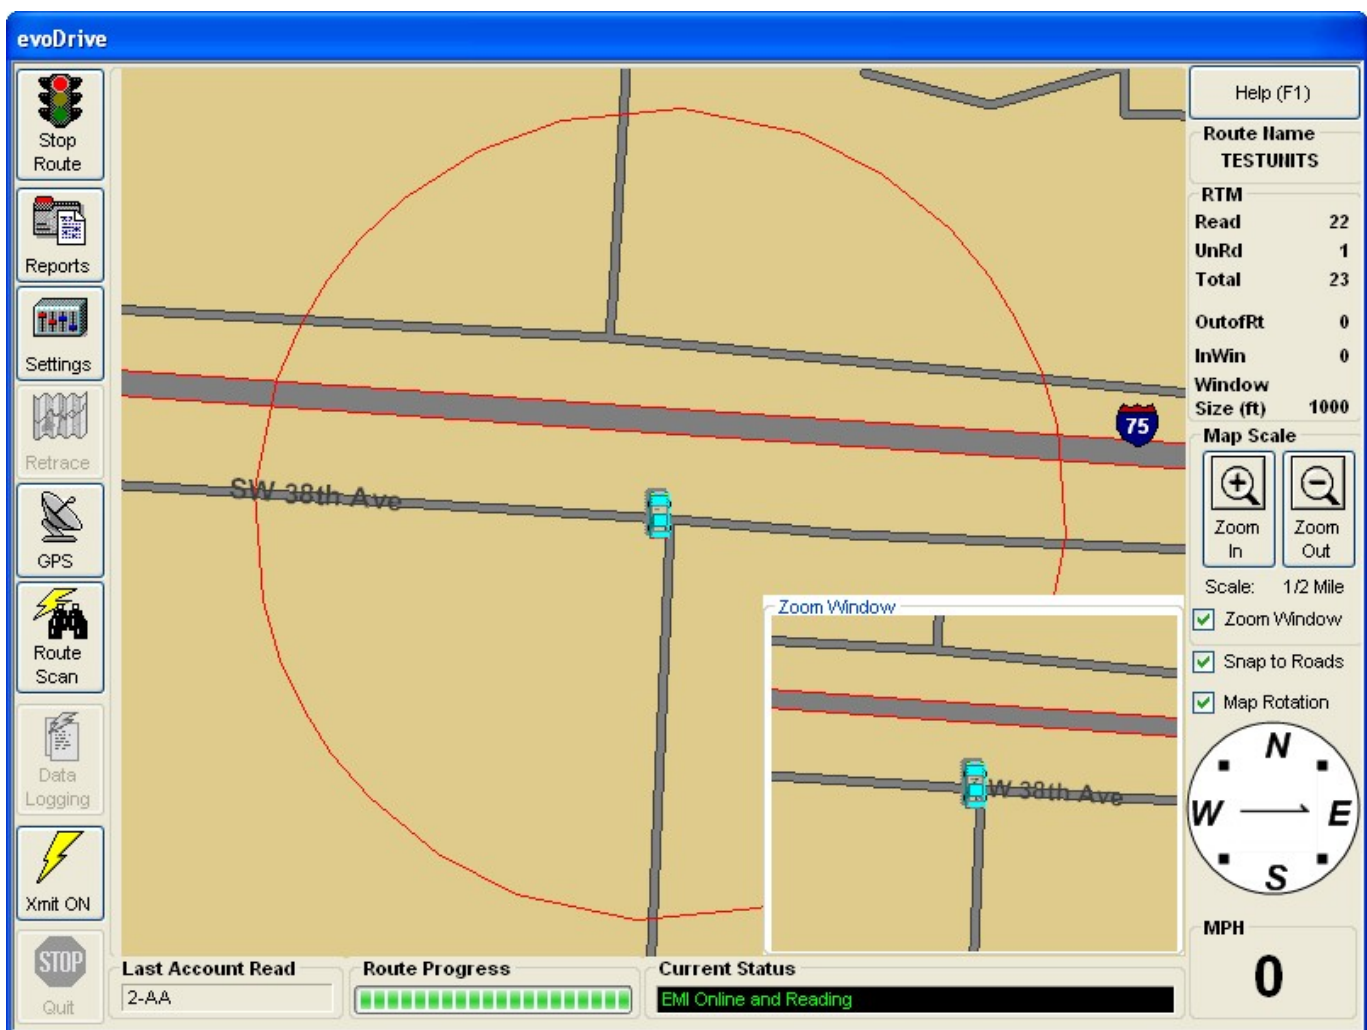

Figure 23: Zoom Window
- If the Zoom Window checkbox is selected, a magnifying glass window will appear on the map as shown in Figure 23.